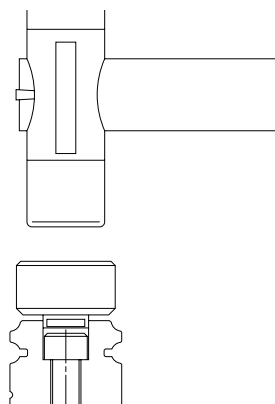

Fig. 4
- › To insert a cap into the rail bolt hole, use a flat tool (Fig. 4). Pound the cap gradually until its top becomes flush with the rail top face.